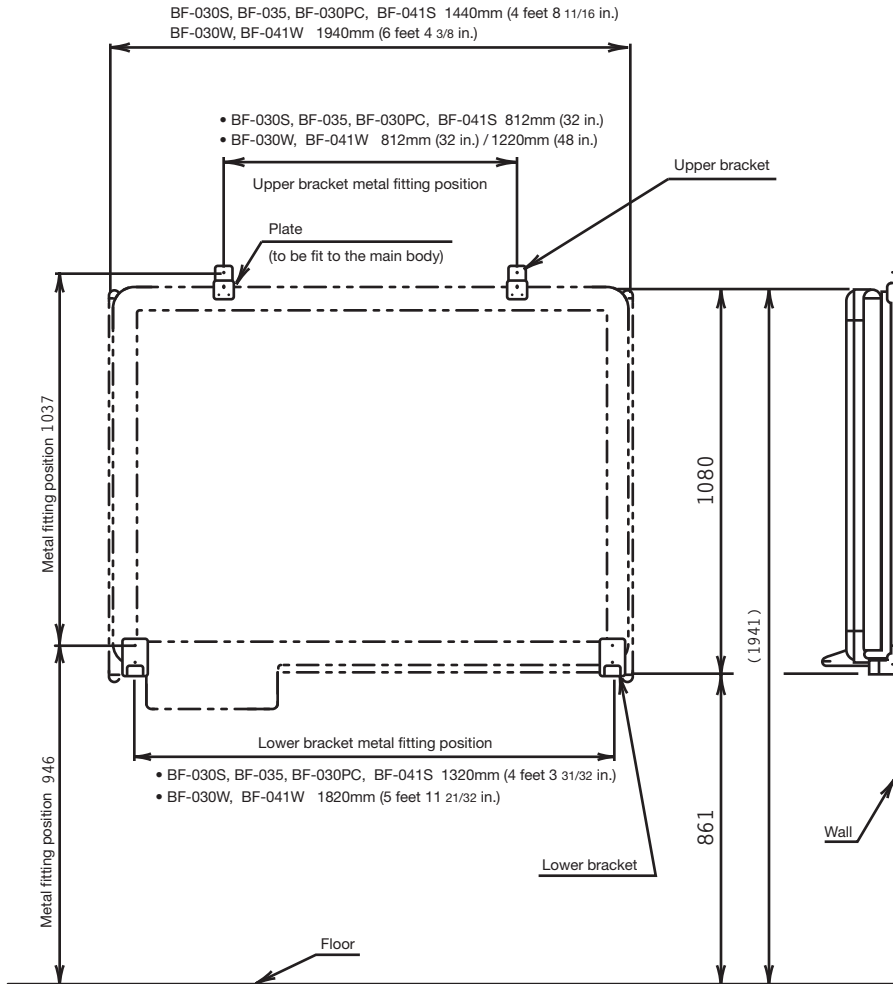

Fig. 1
- Fit the tow lower brackets at the same height. (See Fig.1)